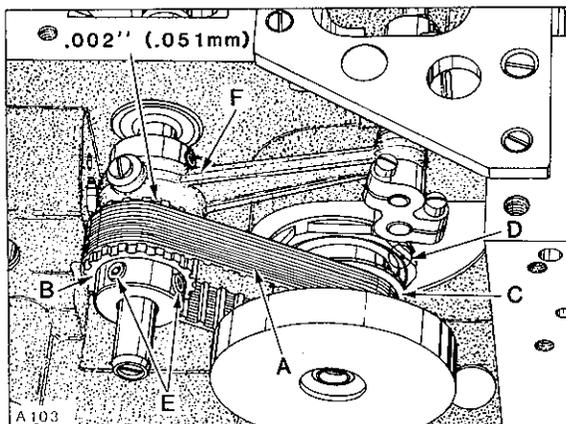

Fig. 4
NOTE: End cover has been removed for clarity in Figure 4, but **MUST BE IN POSITION WHILE MAKING THE FOLLOWING ADJUSTMENTS.**
Looper drive belt (A, Fig. 4) has proper tension if, when turning handwheel in operating direction to position looper in the center of its (right to left) travel ... there is no noticeable (right to left) play in the looper mechanism. There should be approximately 1/8 inch (3.2mm) deflection in looper drive belt when pressing firmly with thumb, midway between sprockets (B and C). Adjustment can be made by loosening two screws (A, Fig. 5) and turn looper module (D, Fig. 4) counterclockwise to tighten belt or clockwise to loosen, as viewed in Figure 4. Retighten screws (A, Fig. 5).
Rotate handwheel in REVERSE direction until pin in looper holder again makes contact with gauge plate and note the reading on the gauge. A variation of (1) graduation on the scale is permissible. If the reading is above "0", loosen screws (E, Fig. 4) and turn rear looper drive sprocket (B) towards the operator (clockwise as viewed in Figure 4). If the reading is below "0", turn sprocket away from operator (counterclockwise as viewed in Figure 4). Temporarily snug screws.
Rotate handwheel in OPERATING direction until pin in looper holder contacts gauge plate and note the reading on scale. If the reading is above "0", loosen screws (E) and turn sprocket (B) away from operator (counterclockwise as viewed in Figure 4). If the reading is below "0", turn sprocket towards the operator (clockwise as viewed in Figure 4). Temporarily snug screws.
side of RIGHT needle and check the distance from the eye of needle to the bottom of looper blade. If the distance was greater when handwheel was turned in operating direction, as shown in Sketch B, loosen screws (E, Fig. 4) and turn rear looper drive sprocket (B) away from operator
directions until the distance from the eye of the right needle to the bottom of looper blade is the same in either direction, as shown in Sketch D. Before tightening screws (E, Fig. 4) securely, be sure to have .002 inch (.051mm) clearance between sprocket (B) and needle guard drive connecting rod (F).
(counterclockwise as viewed in Figure 4). If the distance was greater when handwheel was turned in reverse direction, as viewed in Sketch C, turn sprocket towards the operator (clockwise as shown in Figure 4). Temporarily snug screws. Continue to check and adjust in both OPERATING and REVERSE